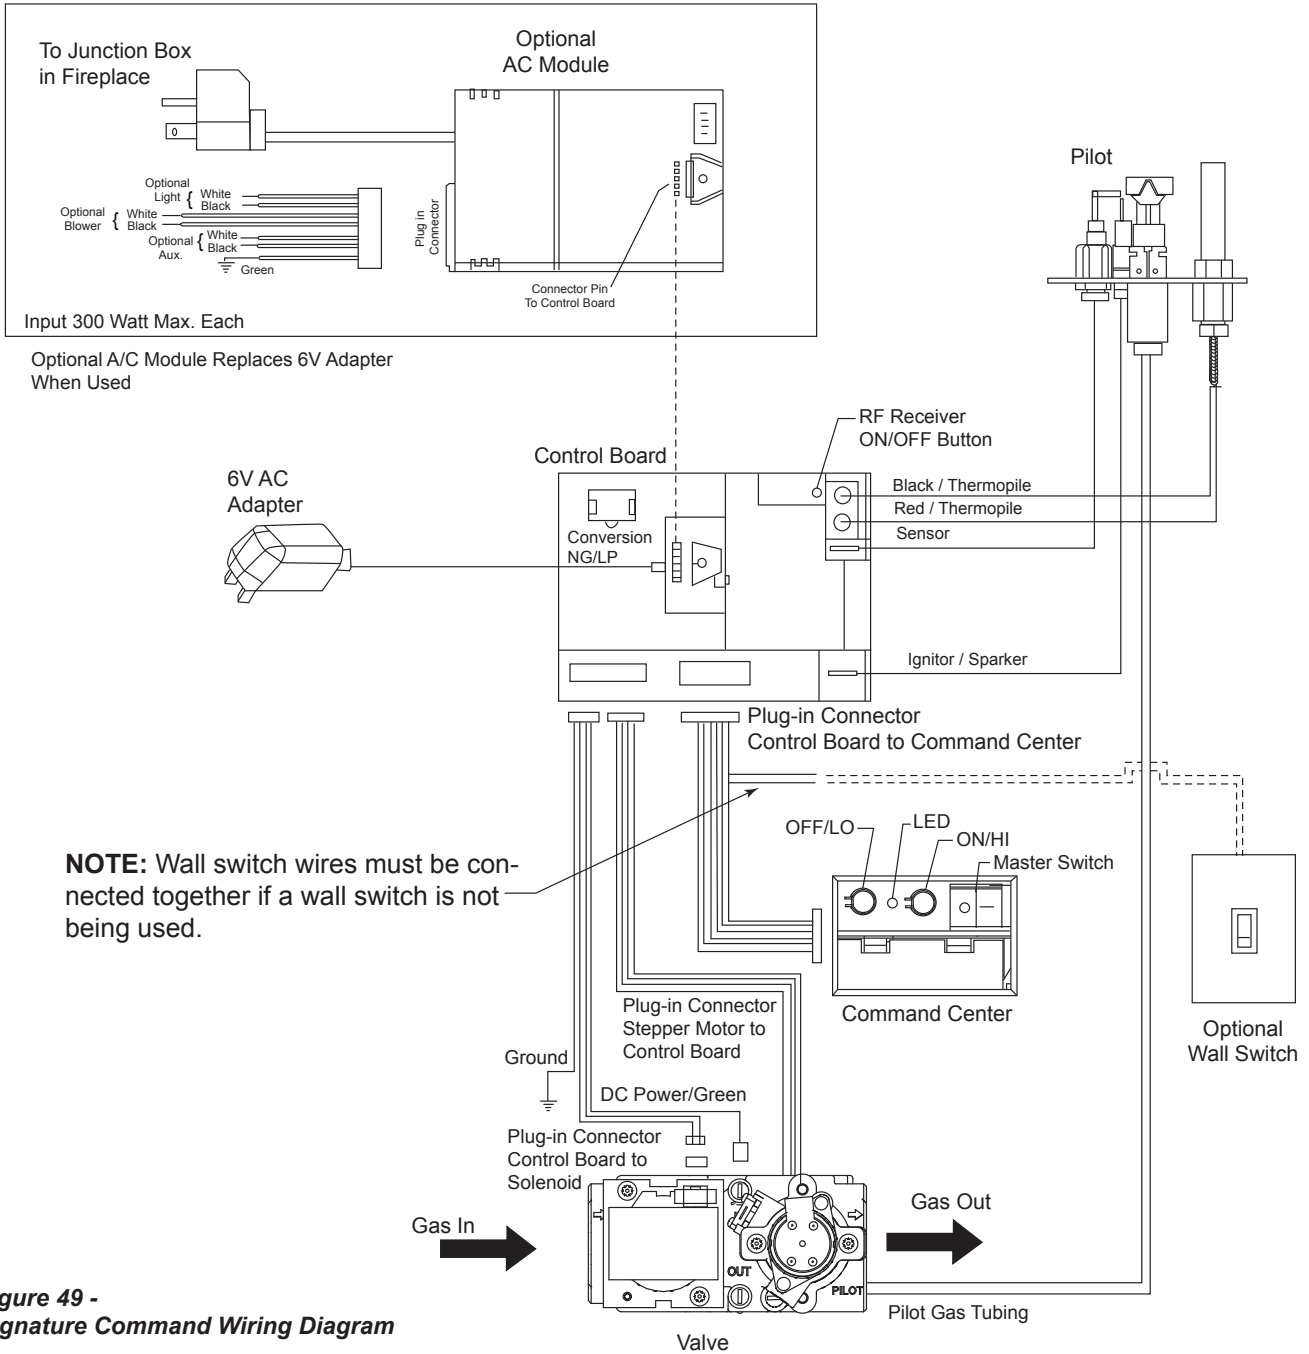

Figure 49 - Signature Command Wiring Diagram
The wall switch wire connection is located off the 2 ft. wire harness from the control box to the command center. *Figure 49*. The connection is labeled “Wall Switch”. Unplug the male and female connectors and connect the two (2) low voltage wires provided. Run wire to desired location on wall. Up to 50 ft. of 18 ga. wire may be used if necessary. Attach wires to wall switch. Mount the wall switch in to junction box and screw on cover.